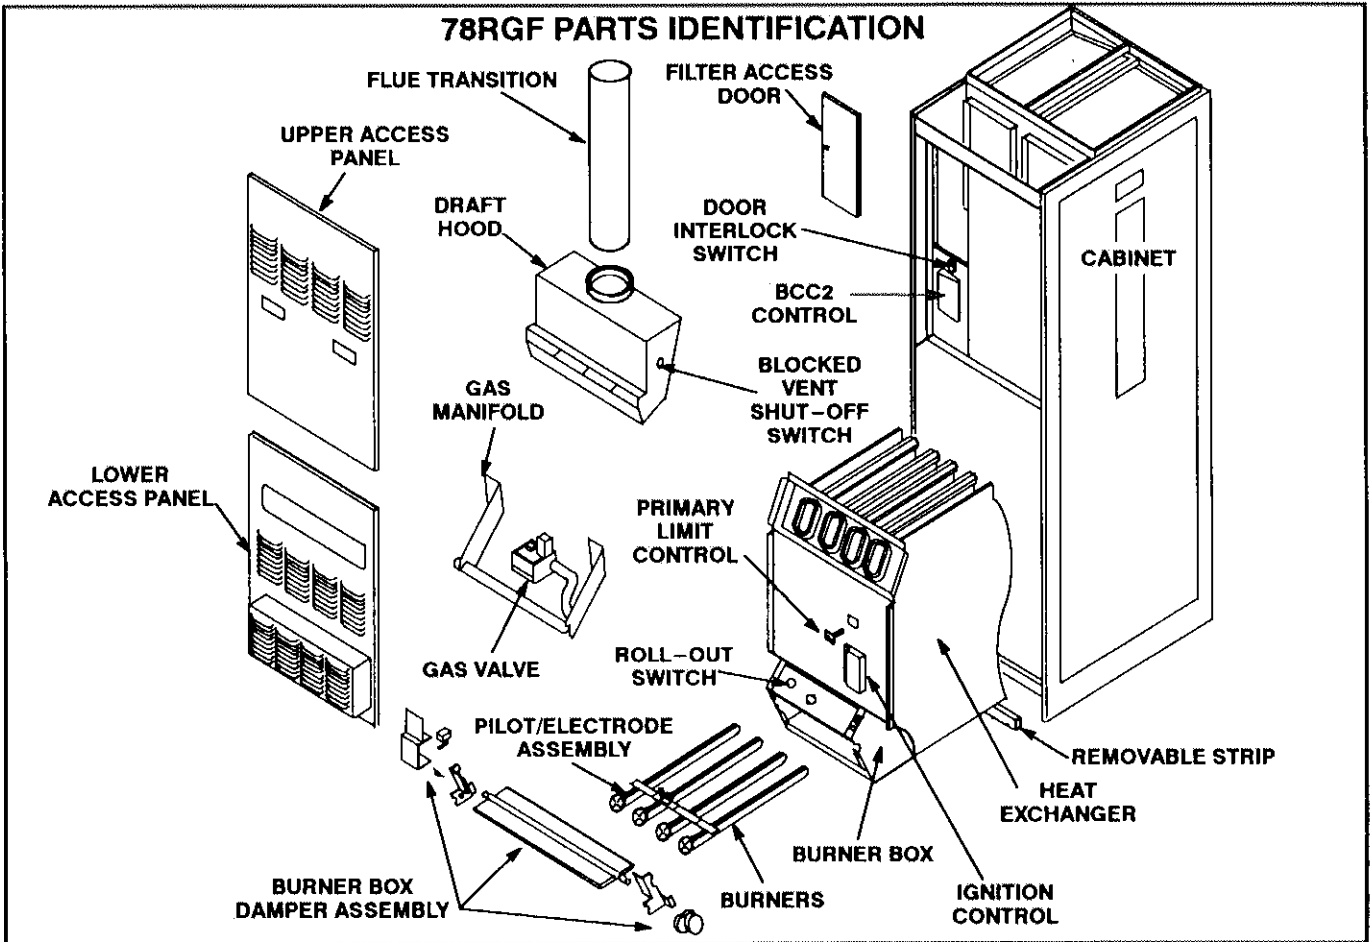

FIGURE 35
- 1— Turn off both electrical and gas power supplies to furnace. Refer to figures 35 and 36 during disassembly and reassembly procedures.